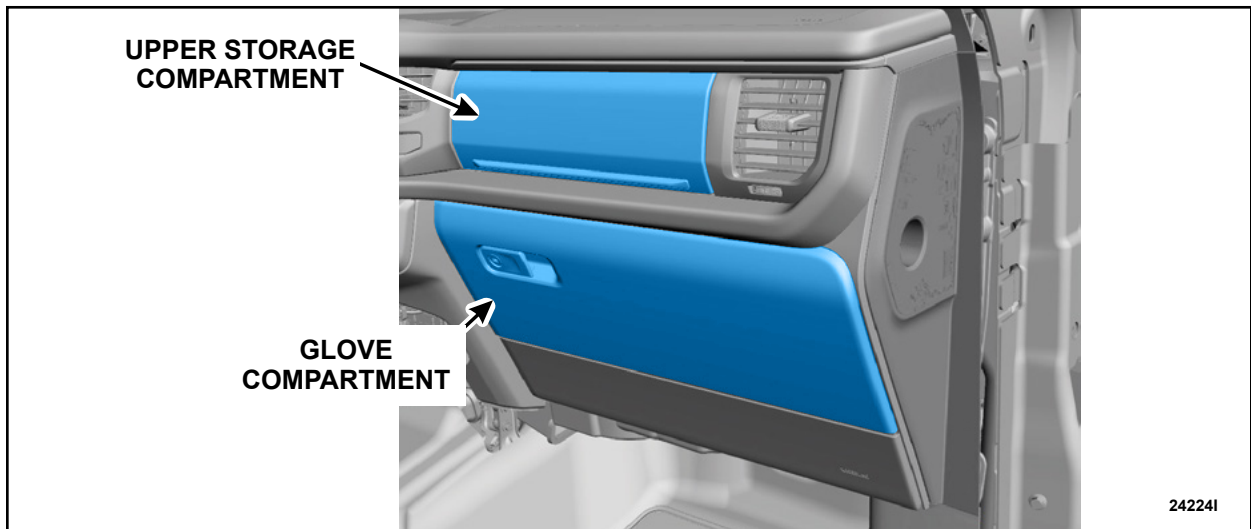

FIGURE 9
15. Verify the function of the glove compartment and if equipped the upper storage compartment. See Figure 9.